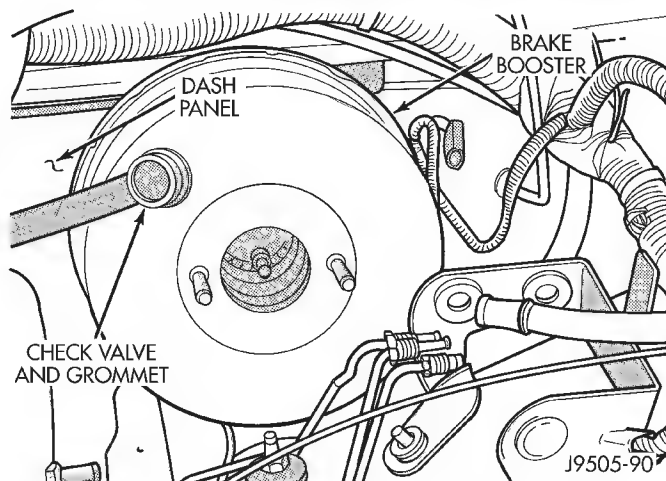
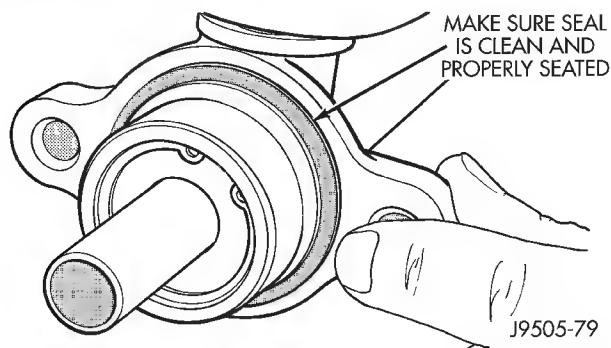
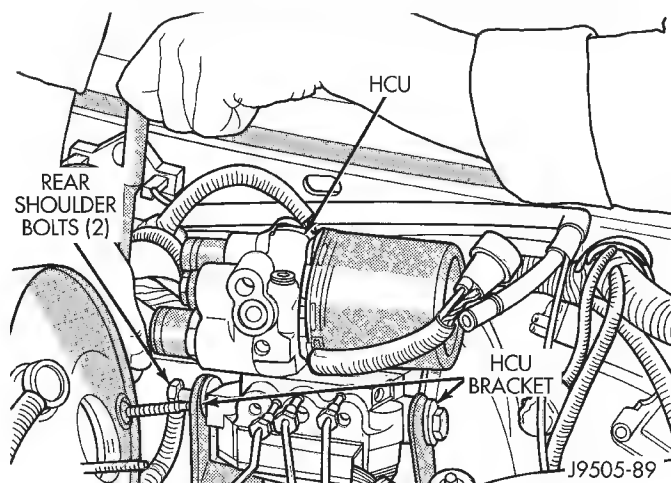

Fig. 17 Brake Booster Positioned On Dash Panel
Fig. 18 Checking Master Cylinder Seal
Fig. 22 Installing HCU Rear Shoulder Bolts
- (1) If new booster is being installed, install new check valve and vacuum hose (Fig. 17). Also install dash seal and spacer on new booster, if equipped.
- (2) Position booster on dash panel (Fig. 17) seat booster studs in dash panel holes.
- (3) Working inside vehicle, install nuts on booster mounting studs. Tighten nuts just enough to hold booster in place.
- (4) Attach booster push rod to brake pedal. Secure push rod with retainer dip.
- (5) Tighten booster attaching nuts to 41 N·m (30 ft. lbs.) on XJ and 34 N·m (25 ft. lbs.) on YJ.
- (6) If necessary, bleed master cylinder on bench before installation. Refer to procedure in master cylinder section.
- (7) If new master cylinder is being installed, **remove plastic protective sleeve from primary piston shank.**
(8) Check condition of seal at rear of master cylinder (Fig. 22). Clean and reposition seal if dislodged. Replace seal if cut, or torn.
(1) If original booster is being installed, test check valve with vacuum tool before booster installation. Replace check valve if it will not hold vacuum.
(2) Install dash seal on booster.
(3) Align and position booster on dash panel (Fig. 17).
(4) In passenger compartment, install nuts that attach booster to dash panel. Tighten nuts just enough to hold booster in place.
(5) Slide booster push rod onto brake pedal. Then secure push rod to pedal pin with retaining clip.
(6) Tighten booster attaching nuts to 41 N·m (30 ft. lbs.) on XJ and 34 N·m (25 ft. lbs.) on YJ.
(7) Install instrument panel lower trim cover.
(8) If original master cylinder is being installed, check condition of seal at rear of master cylinder (Fig. 18). Clean and reposition seal if dislodged. Replace seal if cut, or torn.
(9) Clean cylinder mounting surface of brake booster. Use shop towel wetted with brake cleaner for this purpose. Dirt, grease, or similar materials will prevent proper cylinder seating and could result in vacuum leak.
(10) Align and install master cylinder on booster studs. Tighten cylinder attaching nuts to 13-25 N·m (115-220 in. lbs.) torque.
(11) Connect vacuum hose to booster check valve.
(12) Connect and secure brakelines to combination valve and master cylinder. Start all brakeline fittings by hand to avoid cross threading.
(13) If combination valve has integral bracket, position bracket on booster studs. Then install and tighten bracket attaching nuts to 13-25 N·m (115-220 in. lbs.) torque.
(14) Connect wire to combination valve switch.
(15) Top off master cylinder fluid level.
(16) Bleed brakes. Refer to procedures in section on brake bleeding.
(17) Install engine air cleaner and hoses.
(18) Verify proper brake operation before moving vehicle.